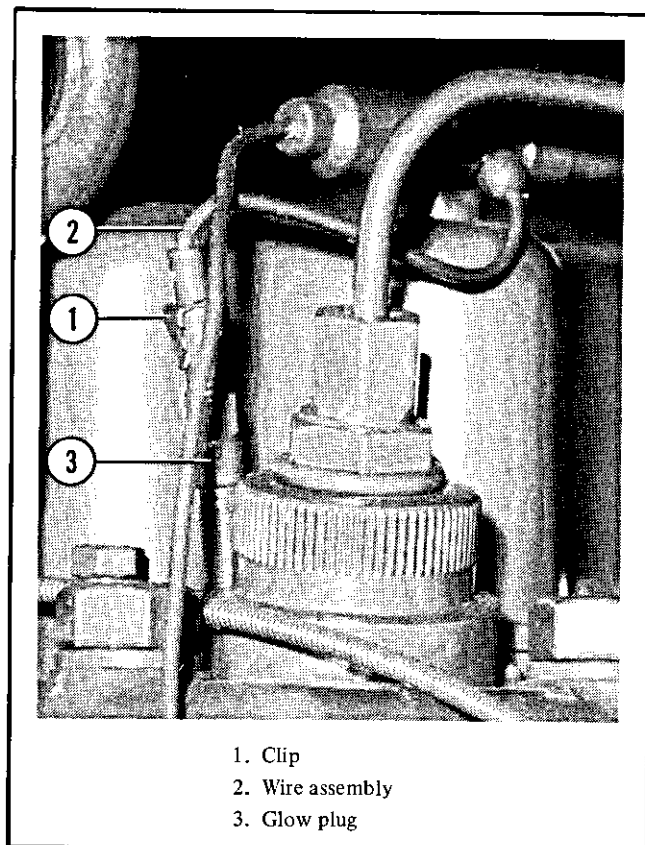

Figure 5-17. Glow plugs
5-32. **GLOW PLUGS** (Figure 5-17). Disconnect wire assembly (2) and clip (1) from glow plugs (3). Unscrew and remove glow plugs (3). Assemble in the reverse of disassembly. Torque glow plugs to 108-132 pounds-inch when installing. Inspect glow plugs as follows.